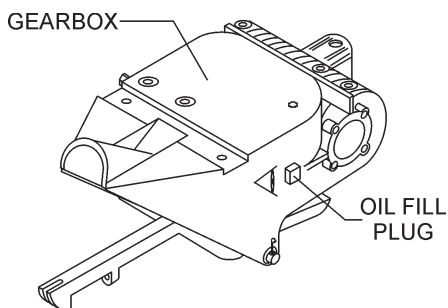

Figure 17. Gearbox
1. Determine if the **gearbox** oil is low by removing the oil plug located on the side of the gearbox. This plug will be marked by the "**check**" decal. See Figure 17. The correct level of the lubrication oil should be to the bottom of the fill plug.